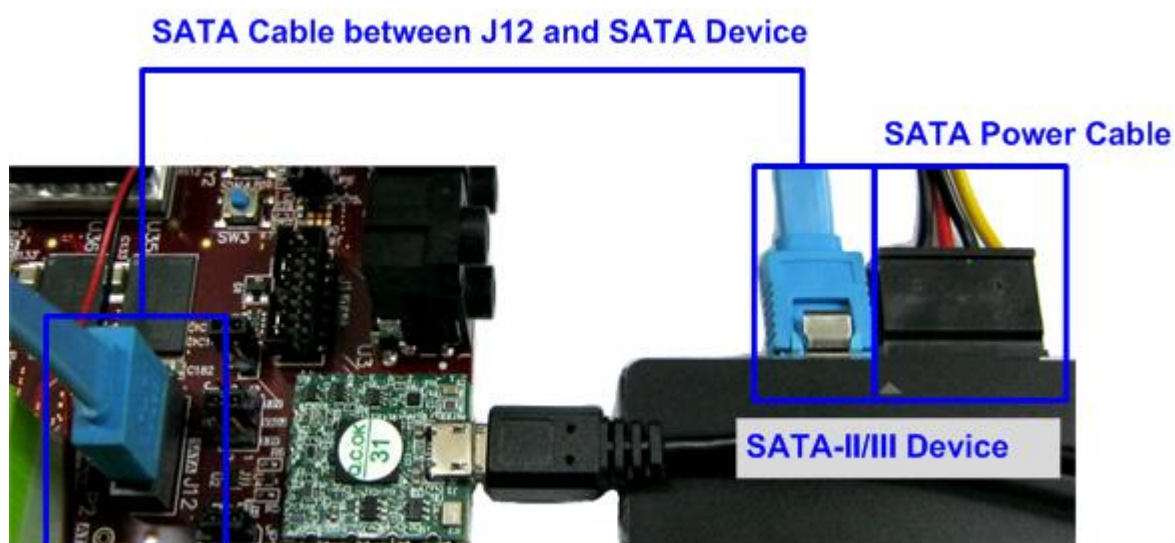

Figure 2-8 SATA-II/III device connection for Zynq Mini-ITX
- The connection on Zynq Mini-ITX is shown in Figure 2-8.